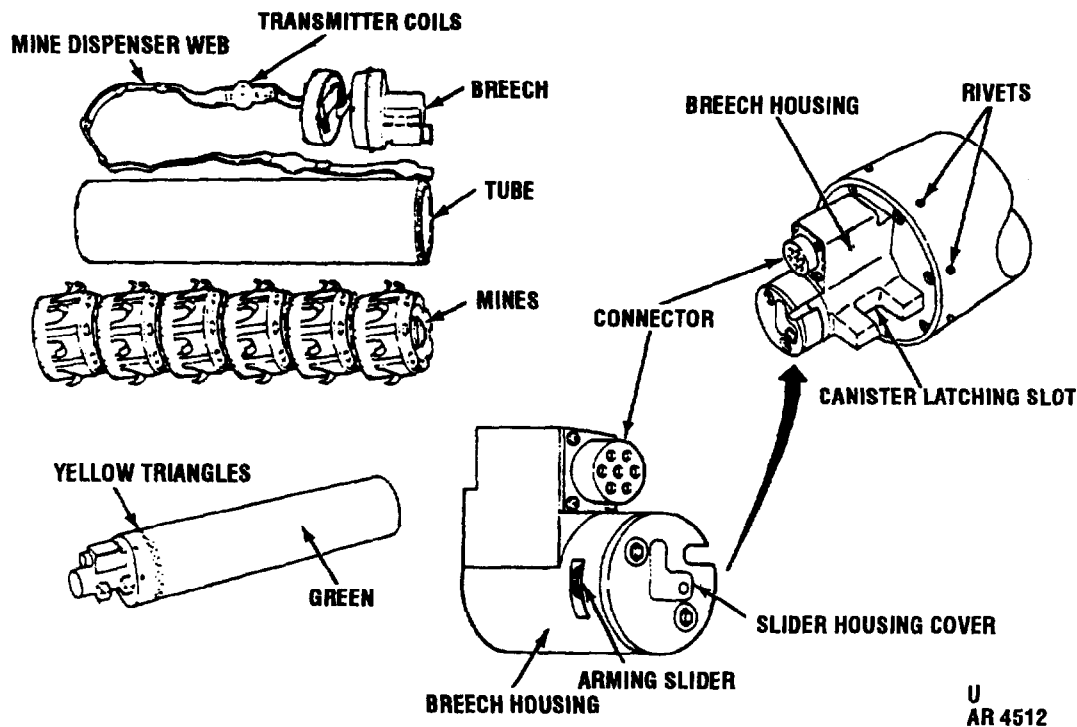

Figure 1-19. Canister, mine: M87 and M87A1.
(1) Each canister mine (fig. 1-19) is an expendable item consisting of an aluminum tube and breech assembly containing five antitank mines and one antipersonnel mine for the M87 canister, and six antitank mines for the M87A1 canister. Also housed in the canister are six transmitter coils attached to a dispersion strap and a propulsion system. The propulsion system consists of a self-contained electrically-initiated primer, and a pressure cartridge assembly containing propellant. The canister is painted in green and has one colored